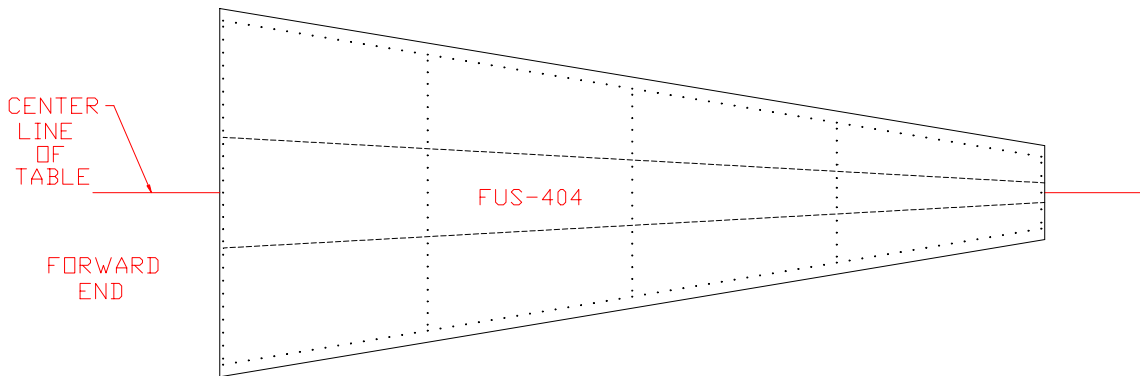

Figure 9.1.2
- 2) Center a Top/Bottom Cone Skin (FUS-404) on the centerline of the table with the flanges up as in Figure 9.1.2. **NOTE:** The top and bottom skins are the same.